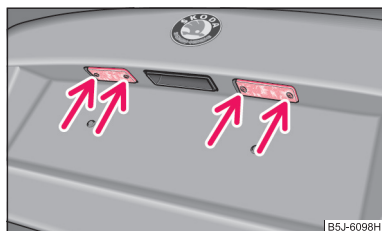

Fig. 174 Remove the licence plate light
- Open the boot lid and unscrew the light glass ⇒ fig. 174.